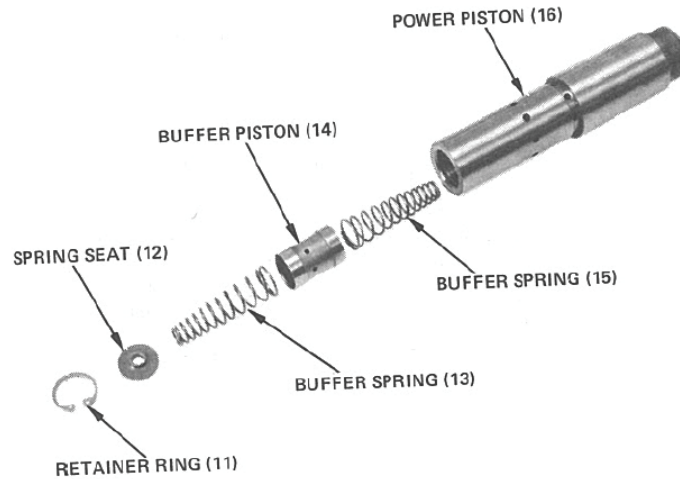

Figure 3-15. Buffer System Assembly
10. Assemble buffer system parts (11 through 15) into power piston (16) if previously disassembled for purposes of cleaning. See Figure 3-15 and note position of holes in buffer piston. They must be in this position for proper operation.